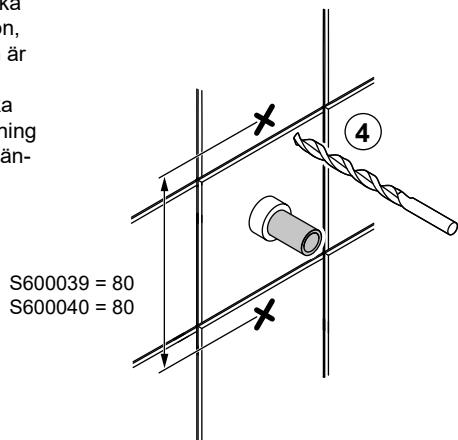

Fig. 1
Alla infästningar med skruv genom tätskikt ska tätas, se "Fig. 1" eller "Fig. 2". Material för tätnings ska fästa mot underlaget och vara vattenbeständigt, mögelresistent och åldersbeständigt.
- The screw mountings where the bath or shower will be installed should be of a sturdy design, for instance made of concrete, wooden studs, wooden nogging pieces or a design that has been tested and approved for mounting. If mountings are fitted with screws through the moisture barrier, the holes must be sealed. See "Fig. 1" or "Fig. 2". The sealant material must attach firmly to the underlying surface and be water-resistant, mould-resistant and non-ageing.